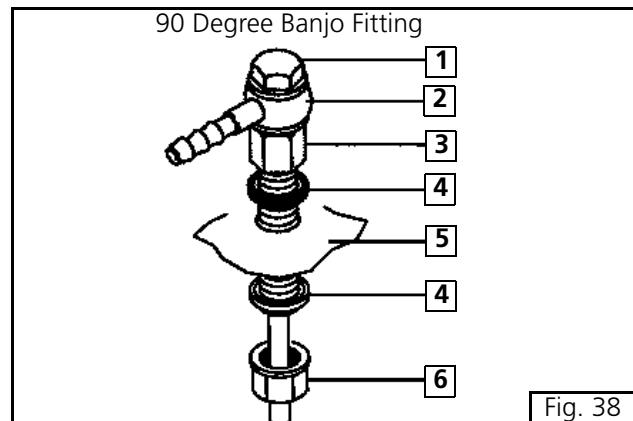

Fig. 38
Refer to figure 38 for banjo fitting installation sequence. Tighten locknut to 9.0 - 9.5 Nm (80 - 84 lb.-in.).
**Legend for Figure 38**